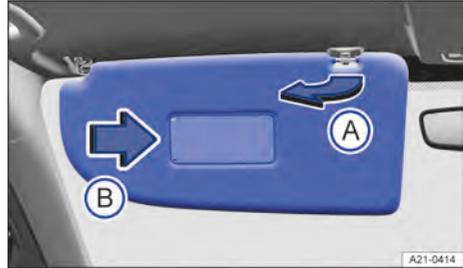

Fig. 94 In the roof at the front: Sun visor
2. Pulled out of the bracket and swung over towards the door → Fig. 94 Ⓐ.
1. Slide the cover open in the direction of the arrow → Fig. 94 Ⓑ.